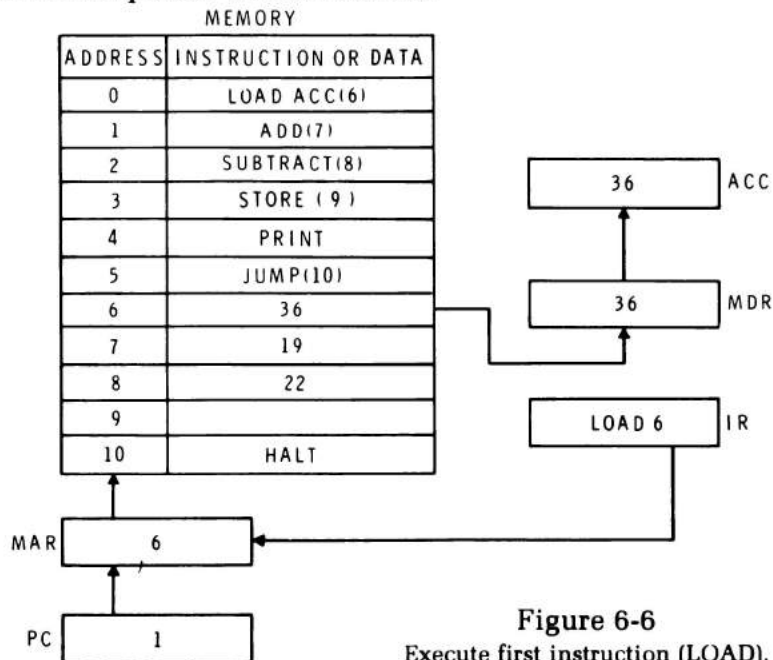

Figure 6-6
Figure 6-6 shows the execution of the first instruction, LOAD ACC (6), which tells us to load the accumulator with the data stored in memory location 6. In executing this instruction, the number 36 is transferred to the accumulator. Note how this is done. The address specified by the instruction word (6) is transferred from the instruction register to the memory address register (MAR). This causes the number 36 stored in that location to be transferred to the MDR and then to the accumulator. During this step, the program counter (PC) is incremented by one so the next instruction in sequence will be fetched.